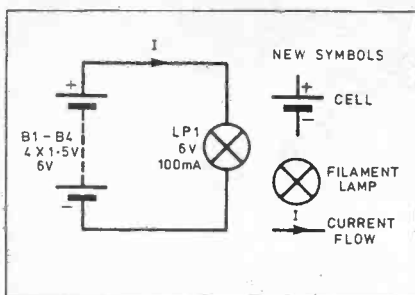

Fig. 1.1(a). Basic electrical circuit.
For the first two parts of *Teach In* the Mini Lab is operated by a battery at a safe low voltage. Later, as the Mini Lab grows, a mains power supply is described which you will be able to build with complete confidence. Take a look at Fig. 1.1(a), which shows a very simple electrical circuit consisting of nothing more than four 1.5 VOLT (V) "dry cells", labelled B1 to B4, and a bulb (LP1).
The bulb is labelled "LP1" for "Lamp 1" and the supplier's catalogue says that it's rated at "6V 100mA". What do these ratings mean? To find out, let's build the circuit shown in Fig. 1.1(a).
Fig. 1.1(b). The electrical circuit built on the Mini Lab. The 6V Battery Pack is connected externally by screw terminals. Use the ON/OFF switch as needed, and ensure the "EXT BATT" option is selected with a shorting plug. See the Mini Lab constructional details. The "6V ON/OFF" switch is not shown in any demonstration circuit diagrams.
Refer to the constructional details of the Mini Lab which describes the assembly and connection of the 6V battery pack. The positive and negative terminals of the 6V supply are available on distribution socket strips mounted on the Mini Lab board, and you can now build the circuit as shown in Fig. 1.1(b). Insert solid-core jumper wires as shown, to connect the battery to either one of the filament indicators clearly marked on your board.
On its own, our circuit of Fig. 1.1(a) isn't much practical use (except as a torch!) but